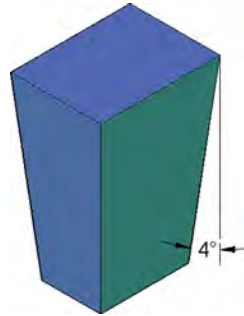

FIGURE 24.19
Step 2. Taper the block on all four sides to 4°, as seen in Figure 24.19.